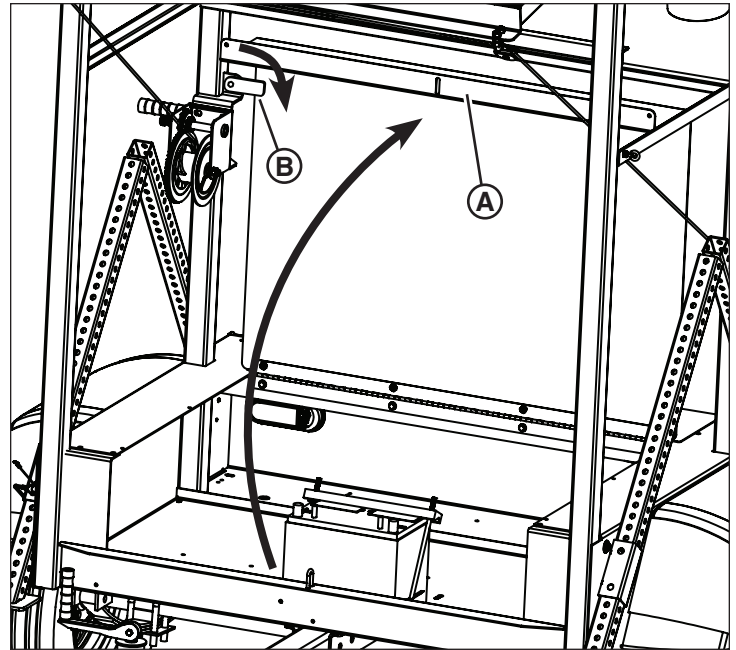

Figure 17
1. Unlock and open the battery compartment door (A, Figure 17). Secure in the open position by rotating the prop latch (B) down in front of the door.